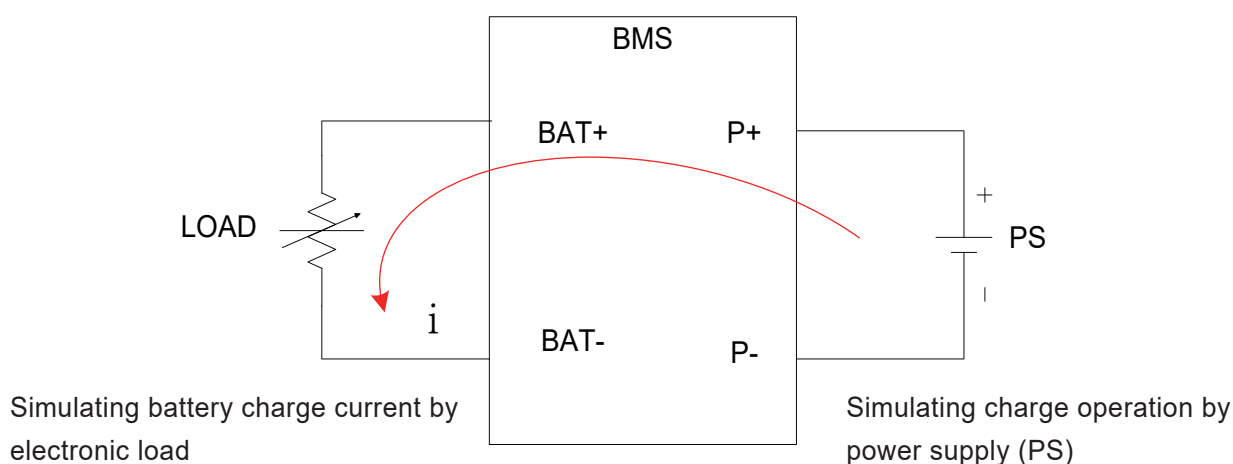

Figure 5 Equivalent Block Diagram for BMS charge operation
Power supply (PS) & LOAD connection and testing procedures shown in Figure 5.